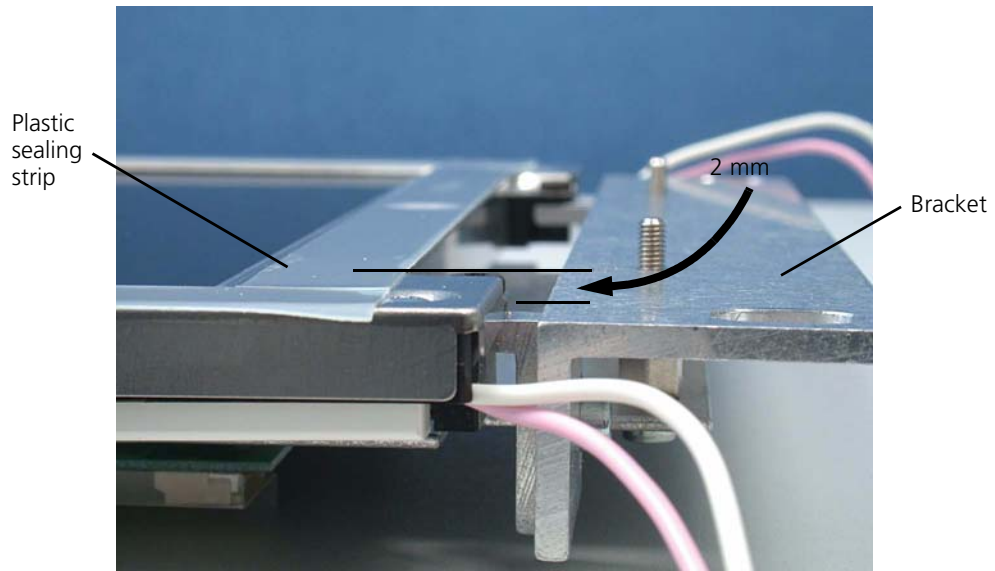

Figure 11-144. Offset between seals and bracket
- There must be an offset of approximately 2 mm between the plastic sealing strips on the LCD, and the brackets. (Figure 11-144.)